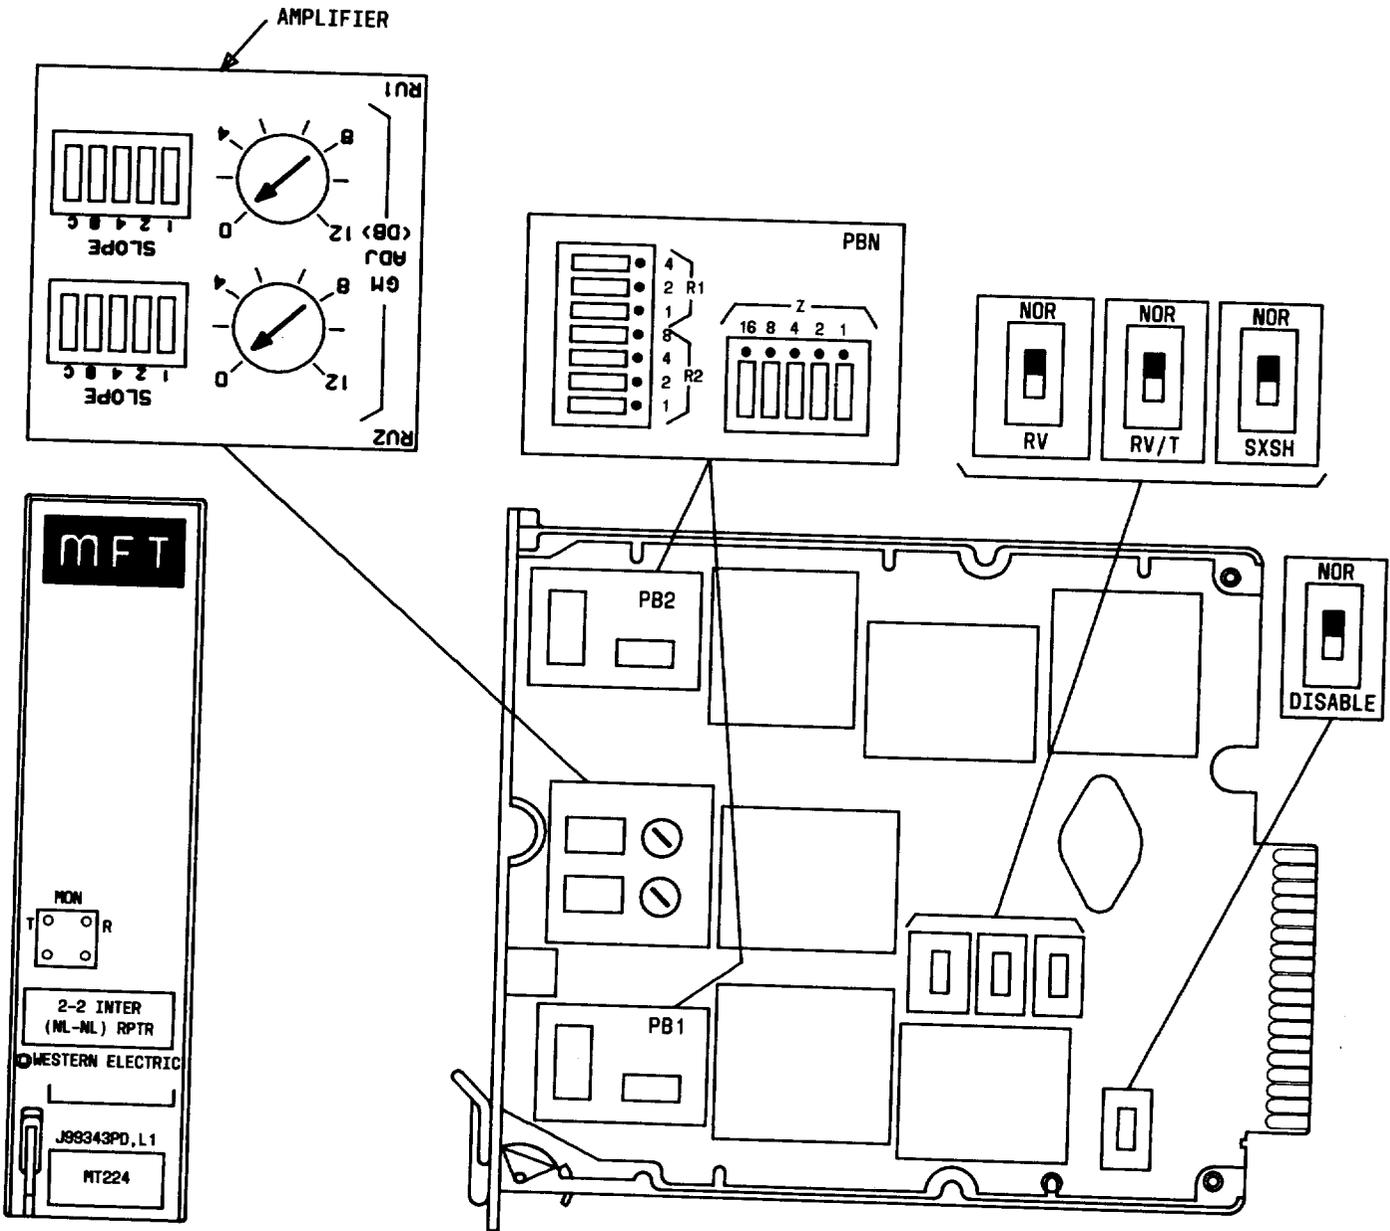

Fig. 1—2-2 Intermediate (NL-NL) Repeater J99343PD, L1 (MD) Component Layout
2.01 The J99343PD, Lists 1 and 2 are shown in Fig. 1 and 2, respectively. They provide gain and
ated when depressed toward the respective designation. The sum of the values of the switches operated is the setting for that function. The unit controls are illustrated in Fig. 1 and 2.